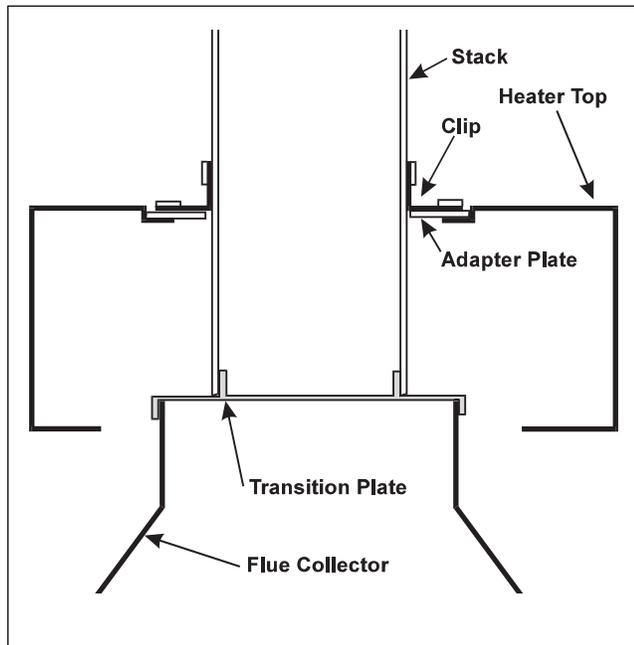

Figure 41. Finished Installation
15. Figure 41 shows a cross-section of the finished installation.